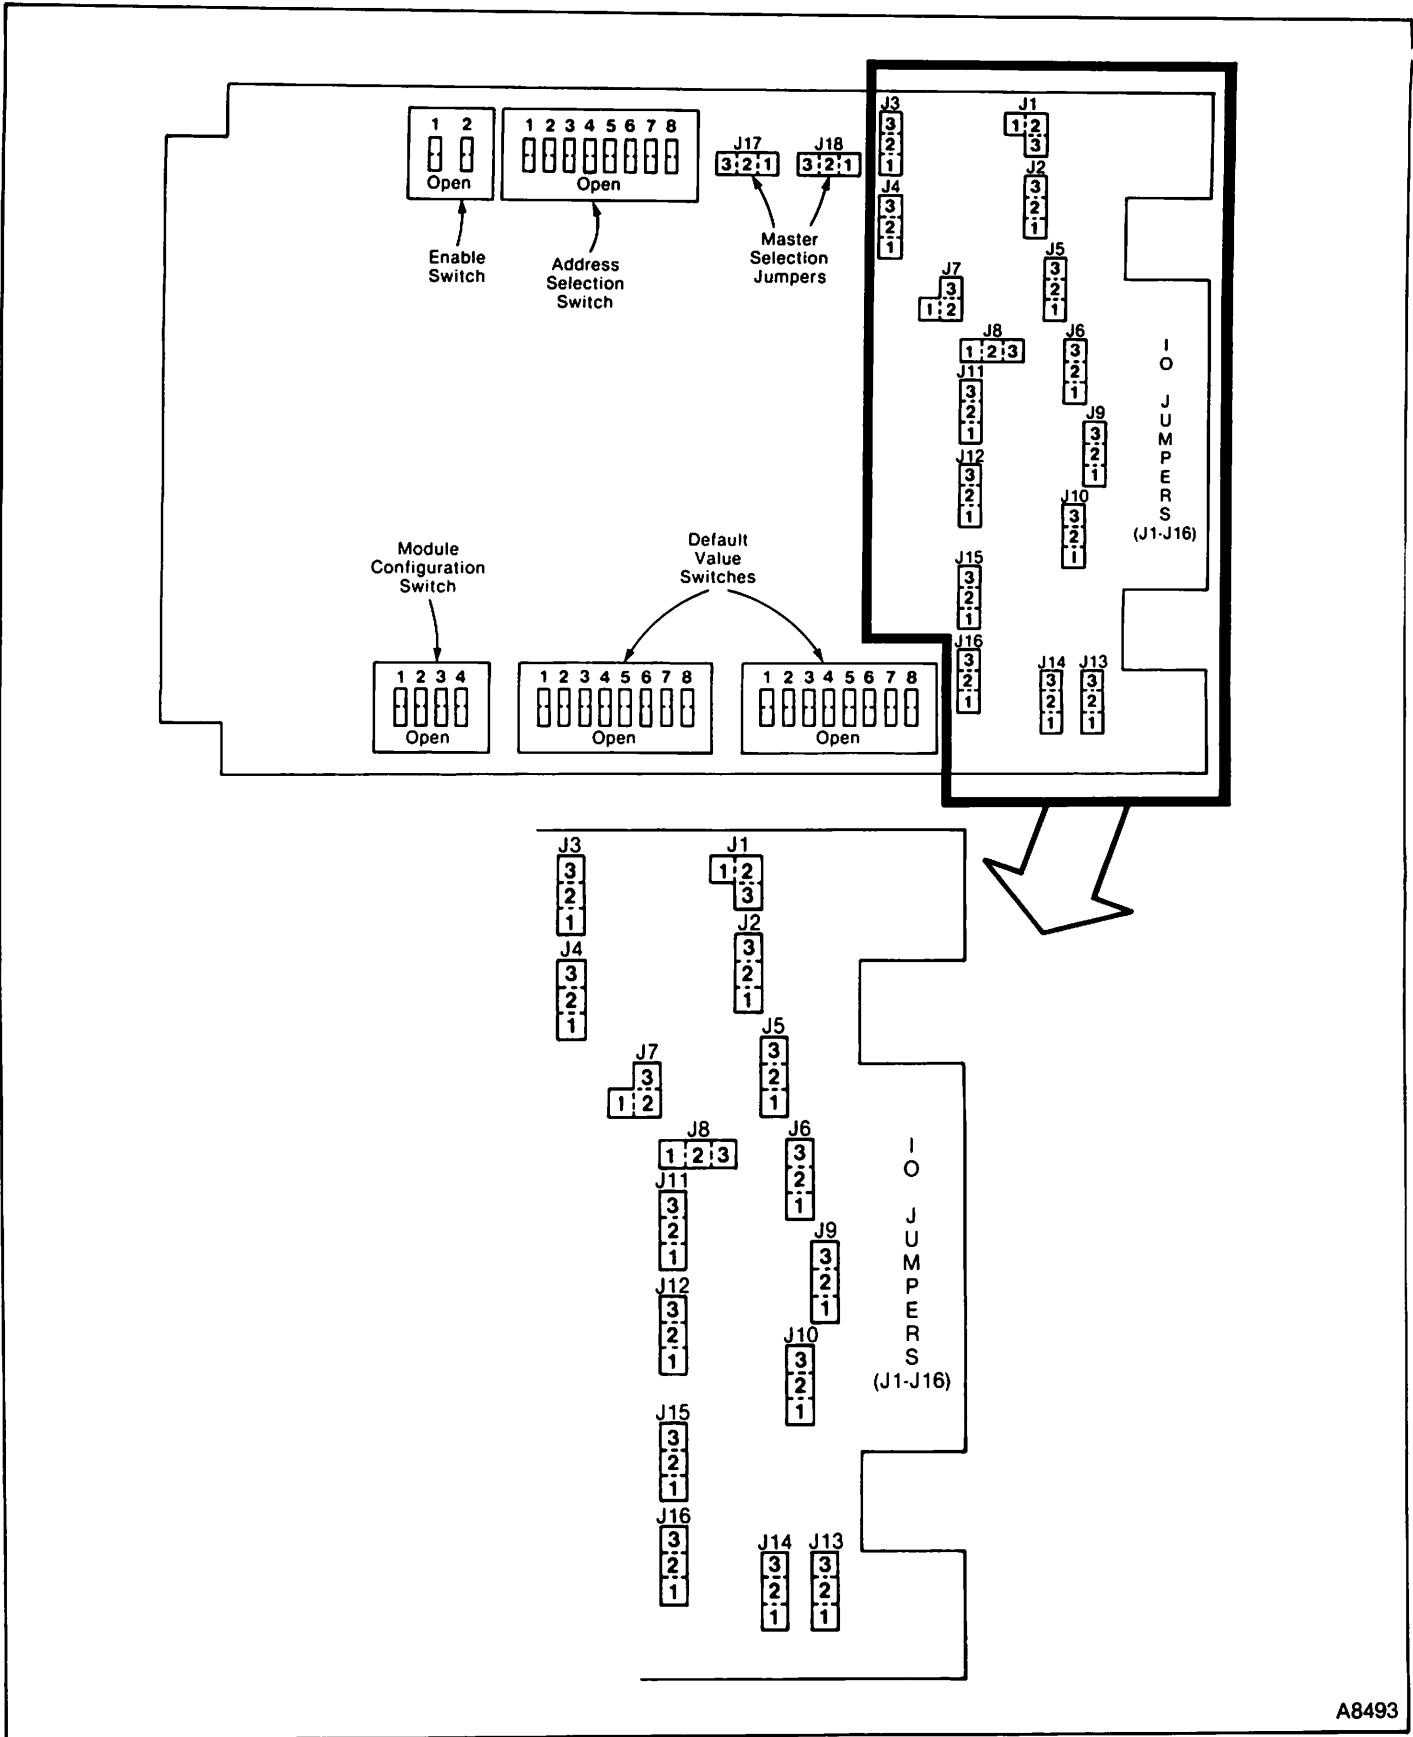

FIGURE 8 — Jumpers.
**Setting Jumpers.** Each of the I/O points has a removable jumper (see Figure 8). The user can mount this jumper between two of three posts for each input or output point. When selecting an I/O point for input, always place these jumpers between posts 1 and 2. Variation begin only when choosing an I/O point for output. For outputs, placing the jumper between posts 1 and 2 causes the DSM05 to operate normally. When the jumper is between posts 2 and 3, it isolates the outputs from each other and from inputs. This jumper setting makes the output a “two-wire isolated” output. (NOTE: In this configuration, the front panel LED for the I/O point does not light and the DSM05 cannot sense the state of the I/O point’s signal line.)
The DSM05 printed circuit card also has two “Master Selection” jumpers (see the upper portion of Figure 8). The user must set these jumpers according to the type of master he uses in his system. If the DSM05 interfaces an LMM01, the user must place jumpers J17 and J18 between posts 1 and 2. If the DSM05 interfaces an MFC, the user must place jumpers J17 and J18 between posts 2 and 3.